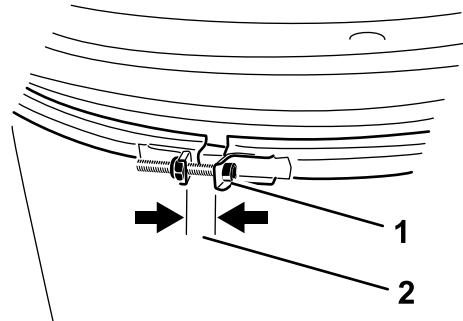

Figure 17
1. Check the nozzle clamp (Figure 17) daily to ensure that is tight.